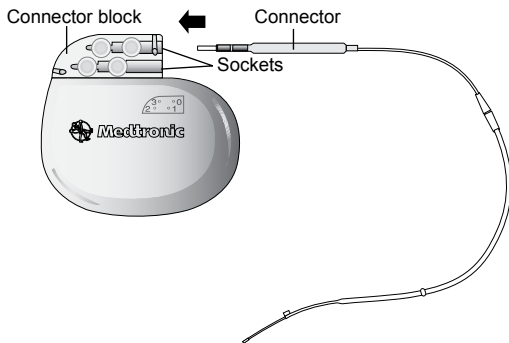

Figure 2. Insert the lead connector pins fully into the neurostimulator.
3. Insert the lead connector pins into the neurostimulator sockets until they are fully seated within the connector block (Figure 2). The connector pins can fit into either receptacle.